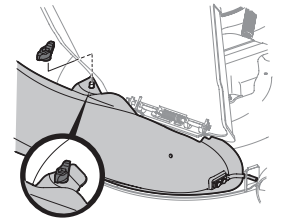

Figure 16
- Secure the chute elbow to the deck using the wing knob (720-04122) from hardware pack 689-02200. See Inset Figure 16.